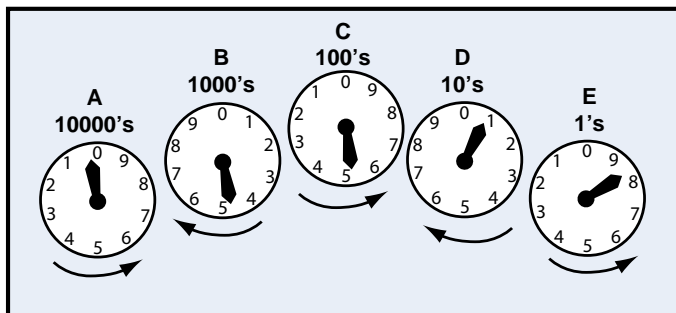

Figure 1
- Using the example at Figure 1, the reading would be 04508 kWh's